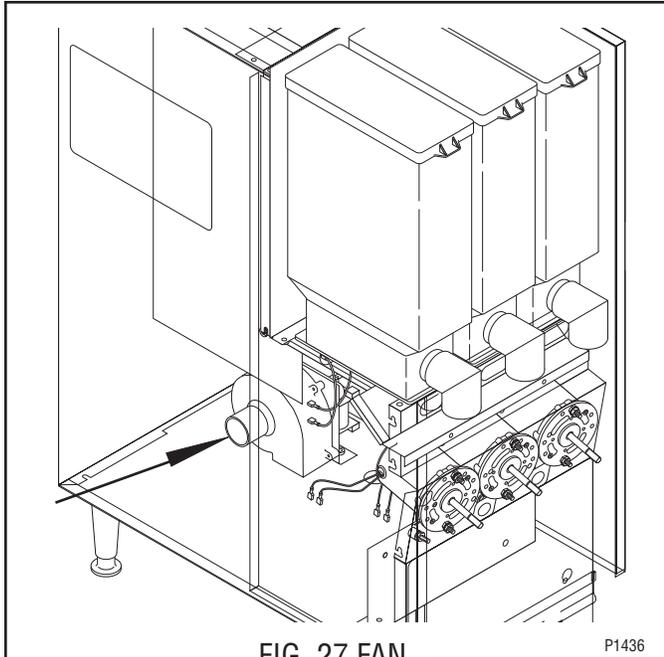

FIG. 27 FAN
6. Pull the frother (6) off the motor shaft. Notice the flat side on the shaft and the matching flat inside the frother. It is important that these two flats are lined up when reassembling.
7. Slip the o-ring (5) off the whipper chamber receptacle (8).
9. Remove the two nuts (7) securing whipper chamber receptacle (8) and whipper motor (10) to the front panel.
- NOTE:** To remove the receptacle only, rotate clockwise until the receptacle clears the nuts (7) and slides off of the motor shaft.
11. Slide the slinger (9) off of the motor shaft.
13. Install new motor (10) on rear of front panel and secure with two nuts (7) and connect black leads on the motor to the main wiring harness. Refer to Fig. 27 when reconnecting wires
14. Slide slinger (9) onto the motor shaft flush against the front panel.
17. Slide whipper chamber receptacle with seal (8) and o-ring (5) on to the motor shaft.
18. Rotate the receptacle with seal (8) counterclockwise until it snaps into place on the motor mounting nuts (7).
19. Push frother (6) onto the motor shaft, making sure the flat in the frother (6) lines up with the flat on the motor shaft.
20. Install whipper chamber (4) on the whipper chamber receptacle (8) by twisting counterclockwise until the tabs on the whipper chamber (4) lock with the tabs on the whipper chamber receptacle (8). Be sure dispense port is pointing down.
21. Install dispense tip (3) into the bottom of the whipper chamber (4).
22. Slip the mixing chamber (2) onto the mixing chamber water inlet tube far enough so the mixing chamber (2) will seat inside the whipper chamber (4).
23. Install the steam collector (1) onto the mixing chamber (2) by pushing down and toward the dispenser while twisting until the flange on the steam collector lines up with the slot in the front panel.